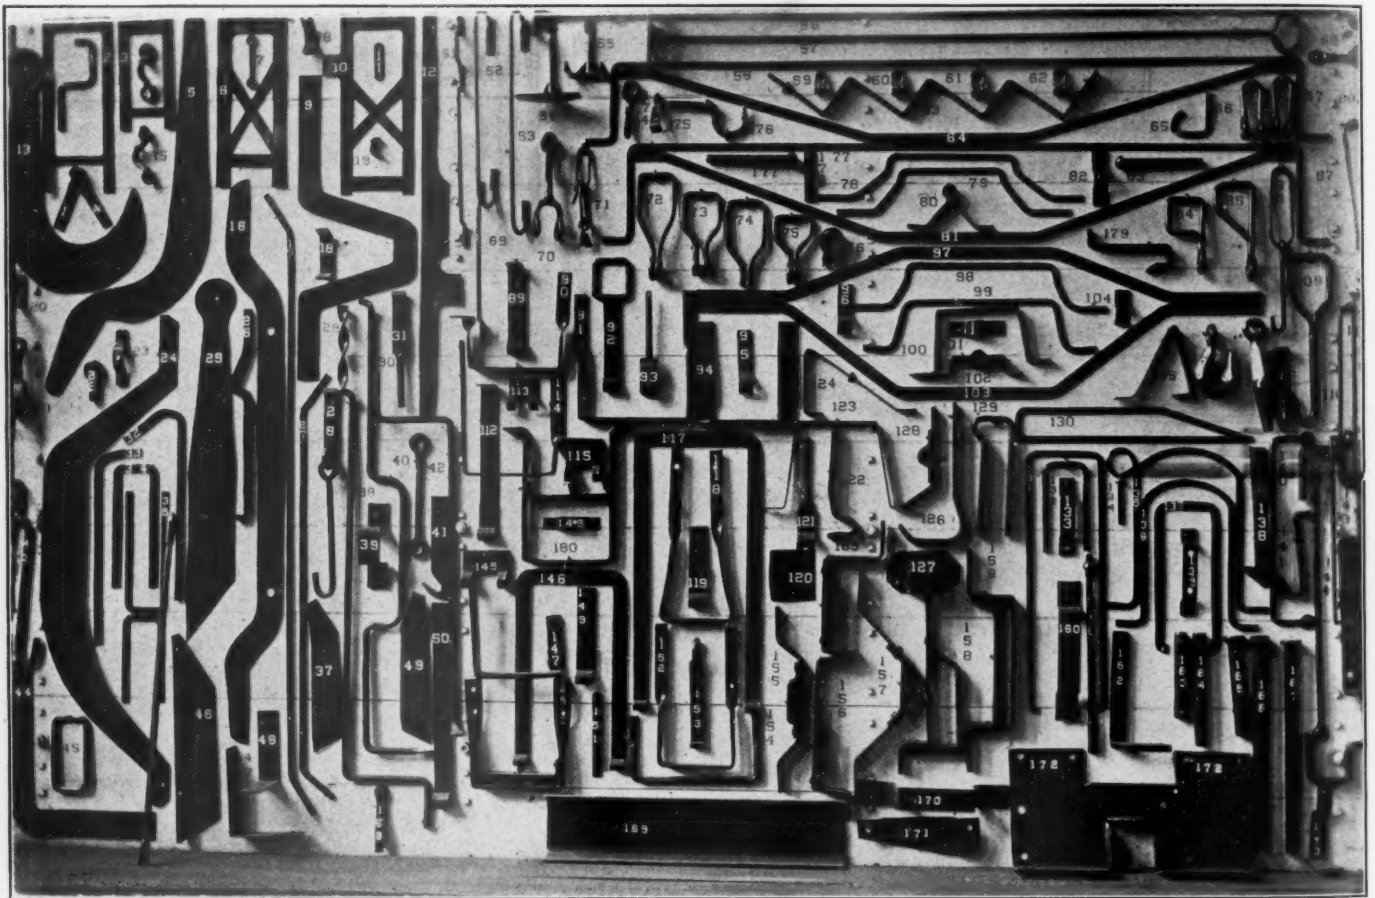

Fig. 6—Examples of Forgings Made at the Pittsburgh & Lake Erie Shops at McKees Rocks, Pa.
A. W. McCaslin (P. & L. E., Pittsburgh, Pa.):—A collection of forgings that are made in the Pittsburgh & Lake Erie shops are shown in Fig. 6.